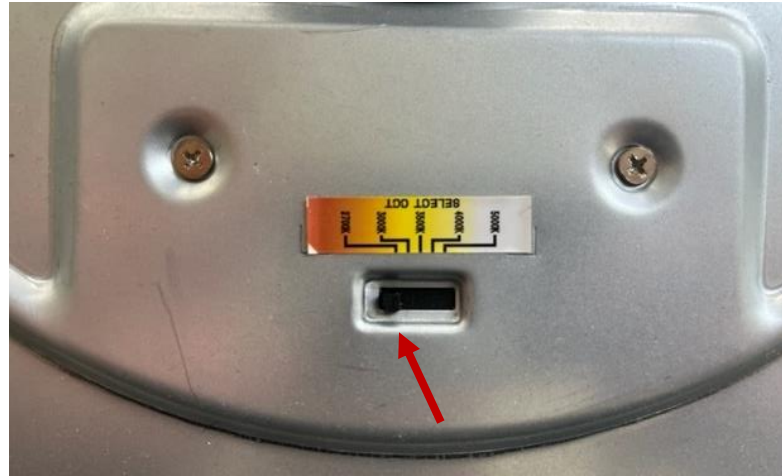

Figure 2
3. Move switch on backside of fixture to desired Color Temperature setting **before fixture installation**, shown in *Figure 2*.